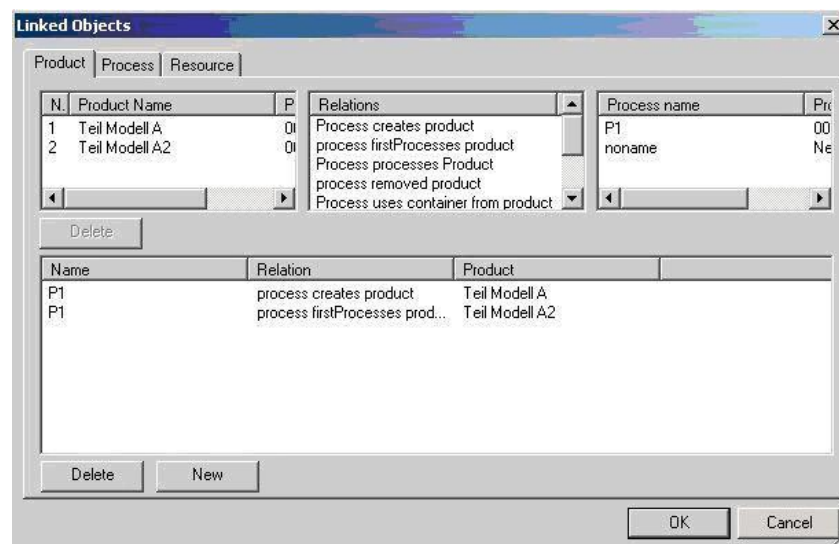

Figure 149: Linked Objects Dialog - Product Display
- In the Linked Objects dialog (*Please refer to the Figure 149*) relations can be generated between linked products and processes generated exclusively for this resource (resource-dependent processes).
- 2) Click Linked Objects. The Linked Objects dialog opens. *Please refer to the Figure 149.*
- 1) To create a relation between a product and a resource-related process, select the product followed by the relation and the process in the upper window. Please refer to the Figure 149.
- 2) After selecting, click **New** button. The selected relation is displayed in the bottom window. In the screenshot below, the **noname** process has been assigned to two relations: input process and output process. Please refer to the Figure 149.